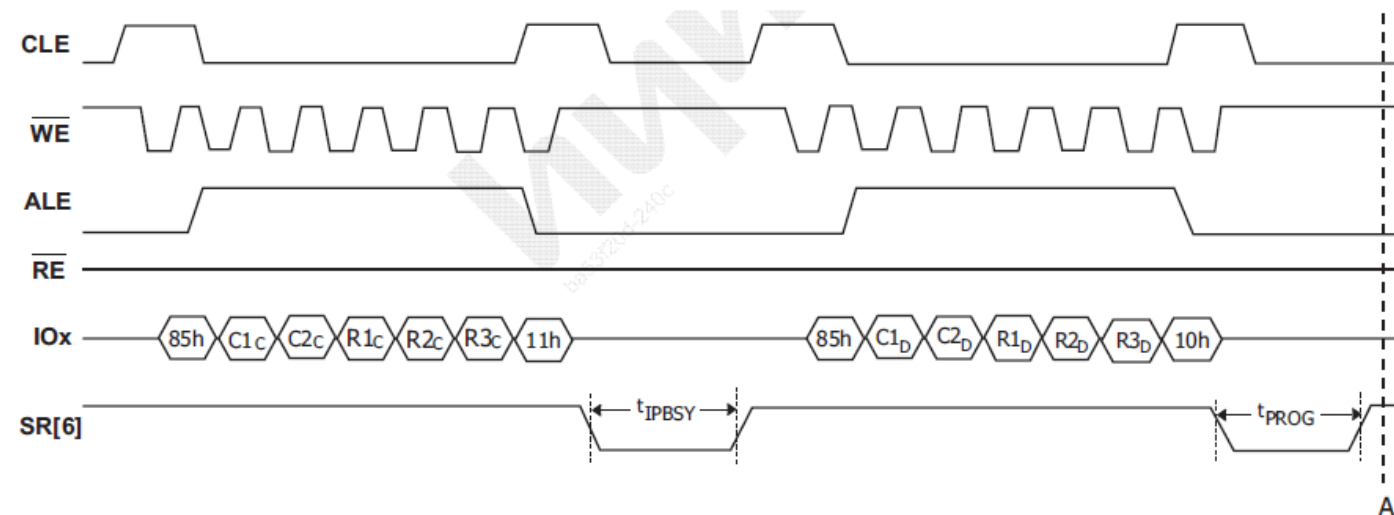

Figure 30 : Multiple plane copy back program (ONFI 1.0 protocol)
Same restrictions on address of blocks on plane 0(A) and 1(B) and allowed commands as **Figure 30** apply